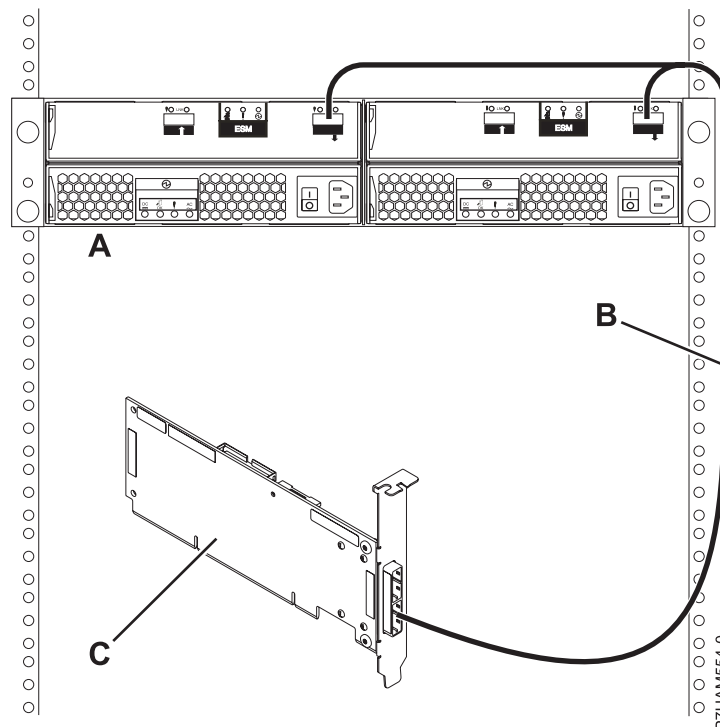

Figure 11. Connection of one 5886 disk drive enclosure to a single SAS adapter by using a YO cable
- Perform the connection of one 5886 disk drive enclosure (**A**) to a single SAS adapter (**C**) by using a YO cable (**B**) as shown in Figure 11.